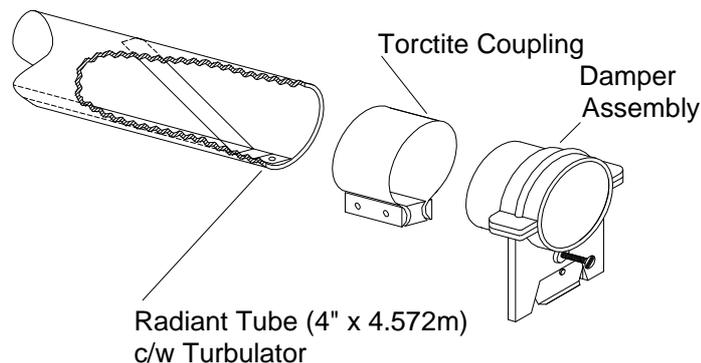

Fig 27
IMPORTANT: ensure that the turbulator is positioned adjacent to the Damper Assy and orientated as shown in Fig. 27. Failure to assemble the Radiant Tubes with their welded seams facing away from the reflector will void the manufacturers warranty.
- 4.8.4 Place a second Torctite Coupling over the end of the Radiant Tube Assembly, where the turbulator is secured to the tube, (see Fig 26 and Fig 27) ensuring that it engages fully, up to the stop. Assemble the Damper Assembly to the Radiant Tube, ensuring that it engages fully into the Torctite Coupling (up to the stop) and is positioned with the adjustable sliding flange at its lower edge. Tighten the nuts of the Torctite Coupling to secure the Damper Assembly to the Radiant Tube, taking care to support the Damper Assembly in line with the axis of the tube.